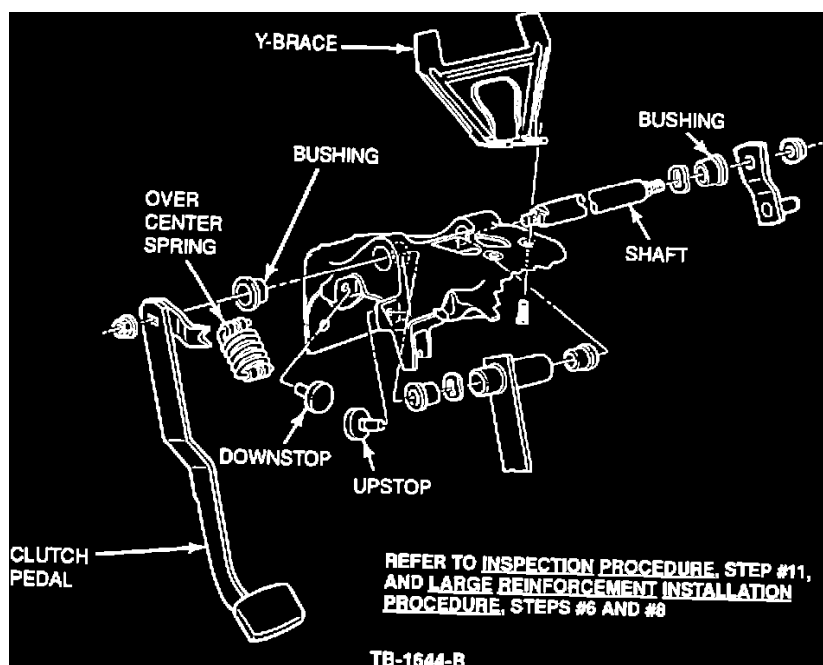

Figure 4
- ^ Missing Y-brace fasteners and a broken or detached Y-brace, Figure 4.